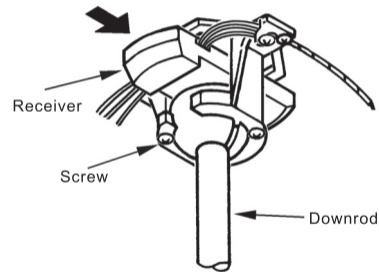

Fig.15
**Step 1:** Insert the receiver unit into the hanger bracket with the flat side of the receiver facing the ceiling.(Fig.15)